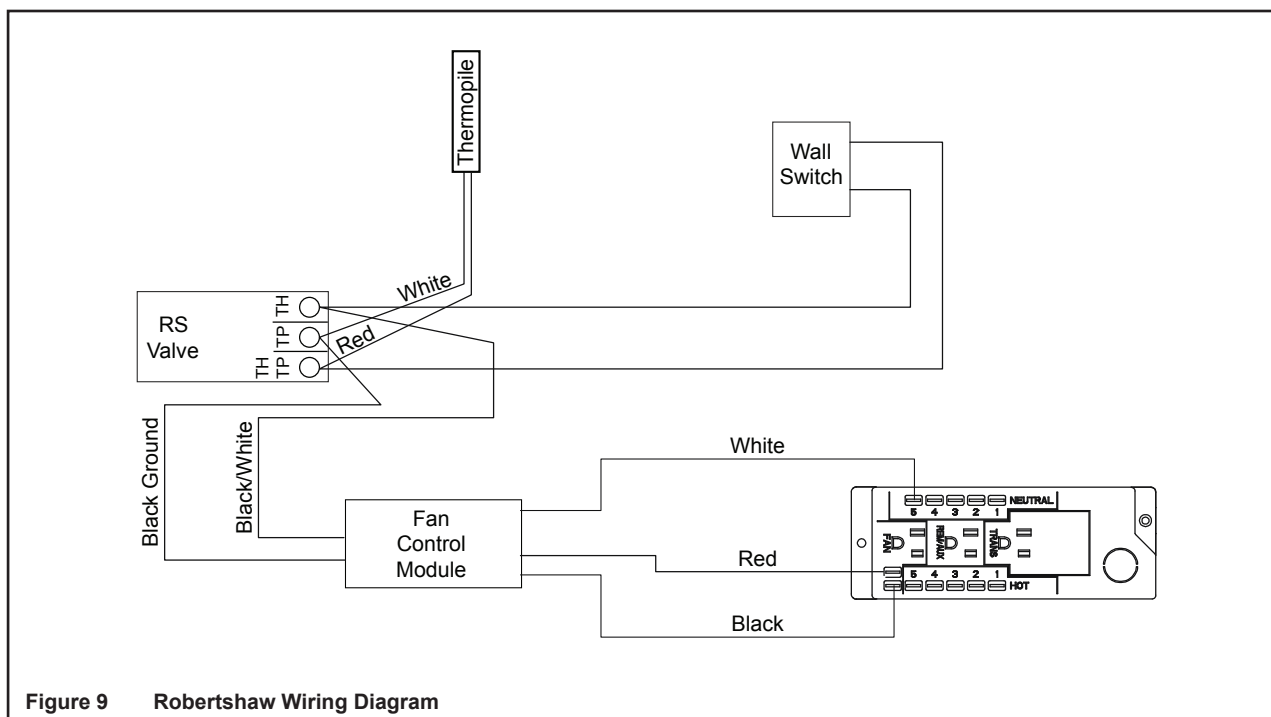

Figure 9 Robertshaw Wiring Diagram
Note: Fan control timer only for use on units with junction box pictured in Figure 9.
- Connect the black, white and red wires with 1/4 in. female connectors from the fan control module to the appliance junction box as shown in Figure 9.
Note: Thermopile must be wired as shown in Figure 9.